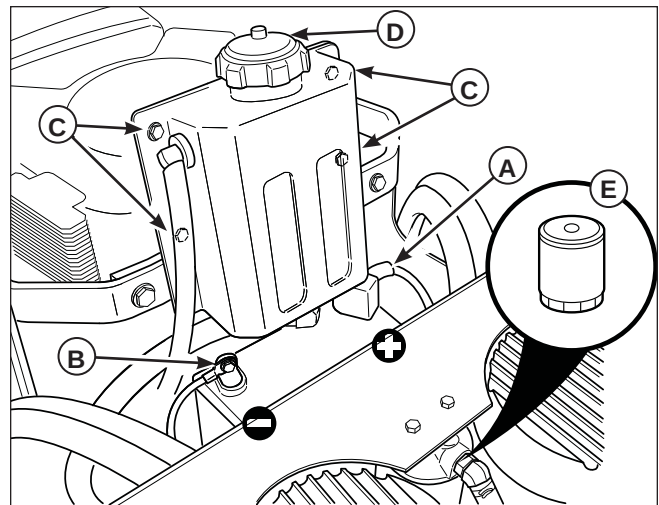

Figure 20. Battery Compartment
1. Locate the transmission oil filter (**A**, **Figure 20**).
1. Remove the hydraulic oil reservoir mounting hardware (**C**, **Figure 20**) and then move the reservoir (**D**) forward to expose the battery.